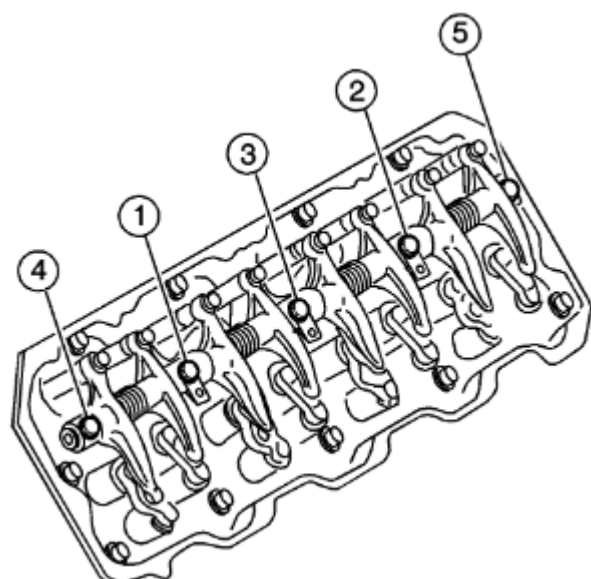

Fig. 71: Rocker shaft torque sequence
- b. Install the rocker arm shaft assembly. Before torquing the bolts, ensure that all pushrods are correctly seated into the valve lifters and rocker arms. Torque the rocker arm assembly bolts to 30 ft-lb in the order shown in figure 71.